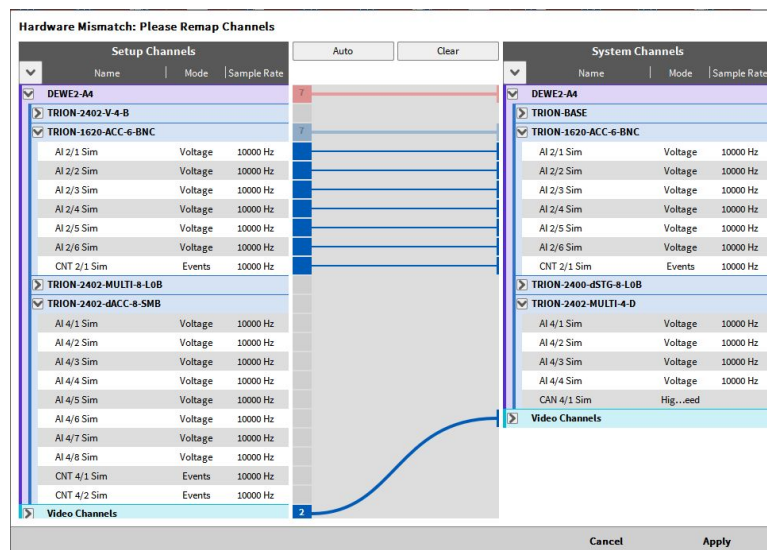

Fig. 3.13: Hardware Mismatch dialog
6. If the measurement hardware does not match with the hardware stored in the setup file, the *Hardware Match* dialog will open (see Fig. 3.13). Within this dialog, the user can rematch his connected hardware to the hardware stored in the setup file before opening it. Identical TRION modules will be matched automatically or use the *Auto* button (see Fig. 3.13). Clicking on *Clear* will delete the complete match that is done so far. After connecting all necessary channels, the user can click on *Apply* and the setup loading will be continued.